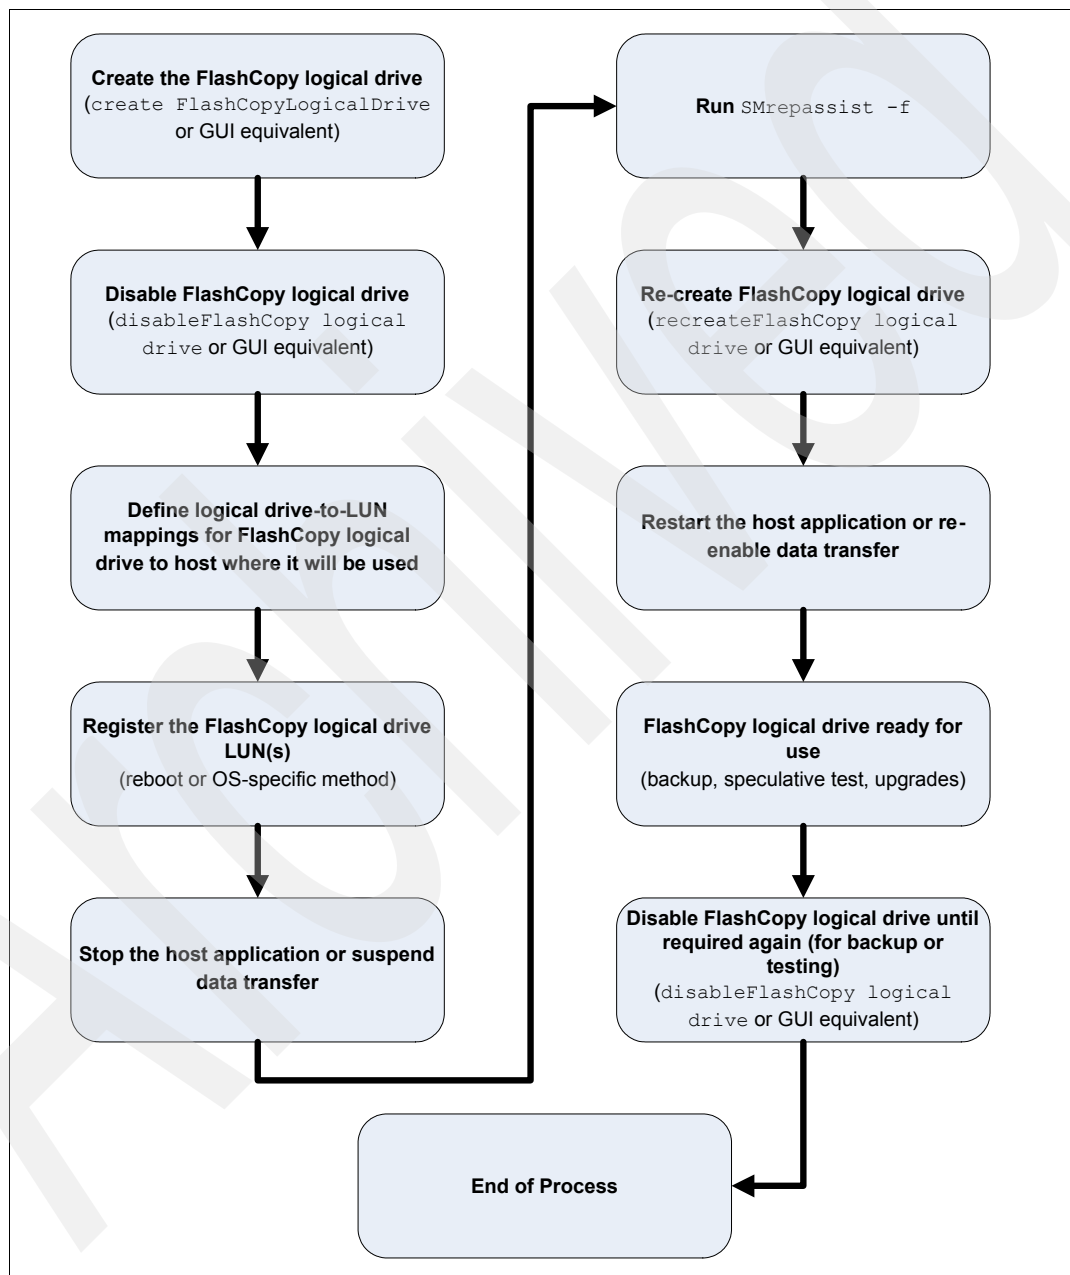

Figure A-1 Creating a FlashCopy logical drive - Windows 2003 or 2008 basic/regular disks
- Create a FlashCopy logical drive on Windows Server 2003 or 2008 (using basic or regular disks). See Figure A-1.